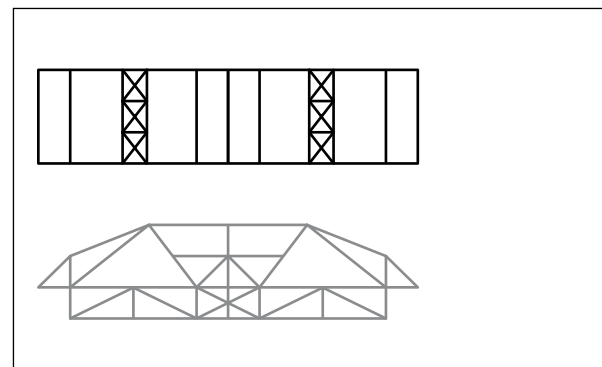

Figure 13 – Same view as Figure 12 but with the top view added directly above the side view.
2. Next, draw the top view to full scale (Figure 13). Align it directly above the side view. The top view is the view you would see if you were in an airplane looking down at the top of the bridge.